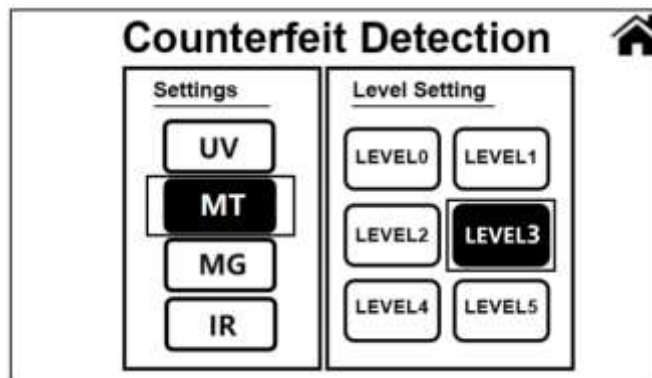

Figure 50
a. As in Figure 50, touch the “MT” option on the left side of the screen, and the default level is “LEVEL3”.